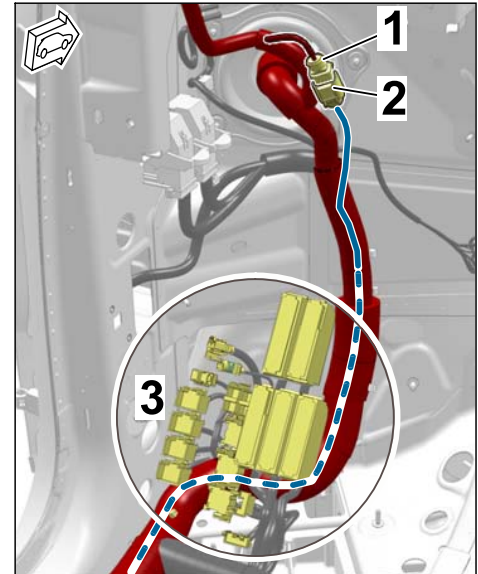

Figure 16
3.2.1 A-pillar area, left (⇒ Figure 16)